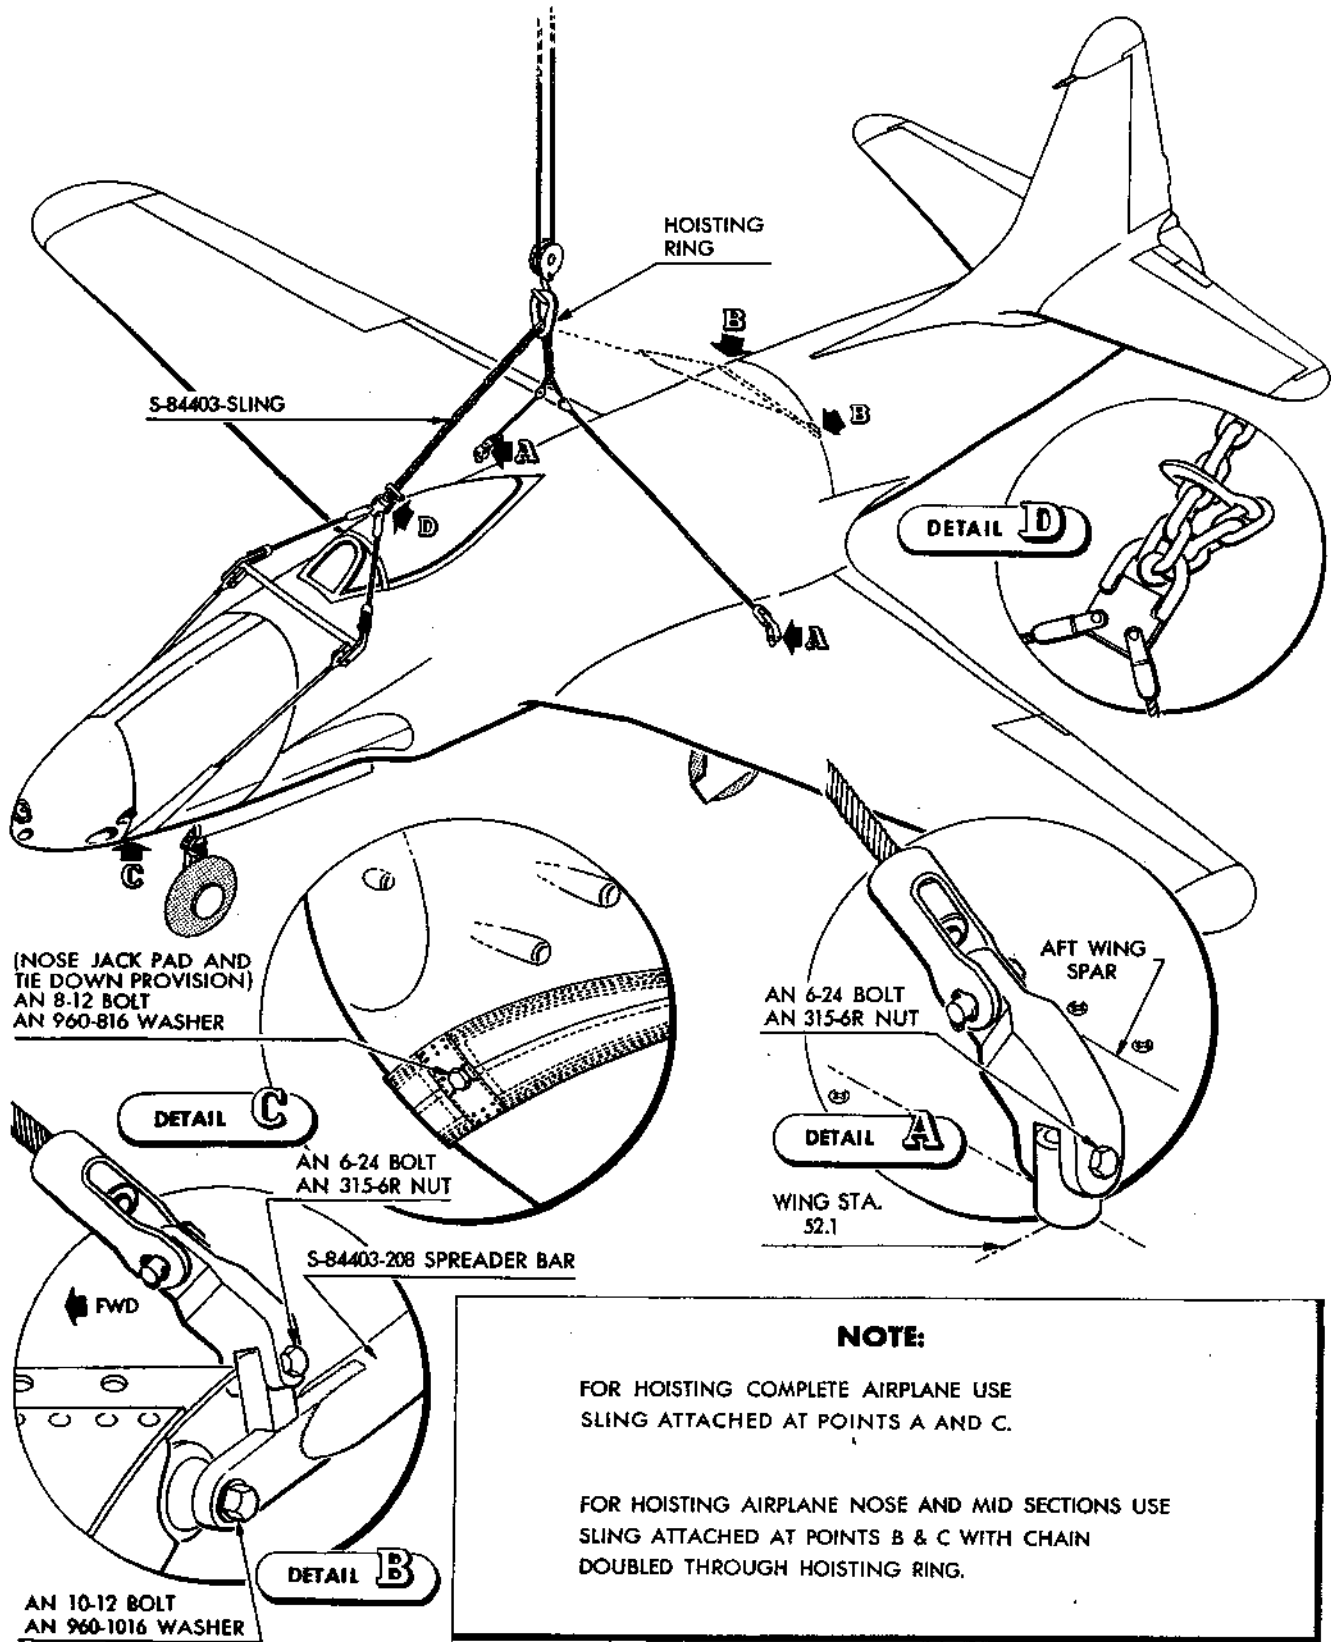

Figure 9 — Hoisting the Complete P-80A Airplane
(1) HOISTING THE COMPLETE AIRPLANE. (See figure 9.)—Hoist the complete fighter airplane with sling No. S-84403.
Attach the canvas part of the sling to the under side of the fuselage nose that provides for the attachment of the nose jack pad and tie-down fitting at point marked "ATTACH JACK PAD HERE." The hoisting lugs for attaching the aft cable of the sling are located in the upper surface of the wing at points marked "HOIST HERE." Before the sling may be attached, screw a No. NAS205 screw into the top of each hoisting lug and raise the lugs into position. The hoisting ring should be approximately two-thirds of the way aft on the chain that connects the forward and aft cables of the sling. Secure the chain through the forward cable ring as shown in detail D, figure 9. Raise the airplane slightly. If the airplane does not hang level, lower it, and move the hoisting ring forward or aft until the airplane hangs level when it is hoisted.
(2) HOISTING THE AIRPLANE LESS ENGINE AND FUSELAGE AFT SECTION.—Proceed as directed in paragraph (1) preceding.
(3) HOISTING THE FUSELAGE NOSE AND MID SECTIONS. (See figure 9.)—Hoist the fuselage nose and mid sections of fighter airplanes with sling No. S-84403. This sling is the same as that used for hoisting the complete airplane, but is rigged in a different way.
Attach the canvas part of the sling to the under side of the fuselage nose as described in paragraph b(1) preceding. Double the chain between the forward and aft cables of the sling through the hoisting ring, and secure it near the aft cable ring, in a manner similar to that shown in detail D, figure 9. Attach the sling aft spreader bar to the two upper aft-section to mid-section attachment points. Attach the aft cables of the sling to the lugs on the spreader bar. The hoisting ring should be approximately one-third of the way aft on the chain.